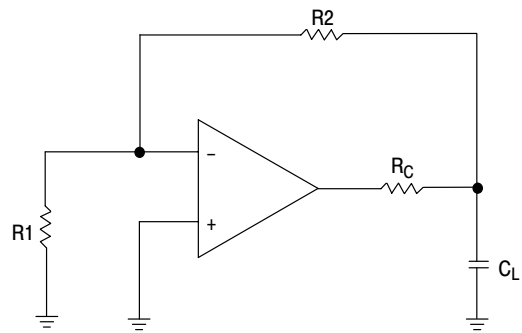

Figure 36. Compensation Circuit for Moderate Capacitive Loads
For moderately high capacitive loads ($500 \text{ pF} < C_L < 1500 \text{ pF}$) the addition of a compensation resistor on the order of 20Ω between the output and the feedback loop will help to decrease miller loop oscillation (see Figure 36). For high capacitive loads ($C_L > 1500 \text{ pF}$), a combined compensation scheme should be used (see Figure 37). Both the compensation resistor and the compensation capacitor affect the transient response and can be calculated for optimum performance. The value of C_C can be calculated using Equation (1). The Equation to calculate R_C is as follows: